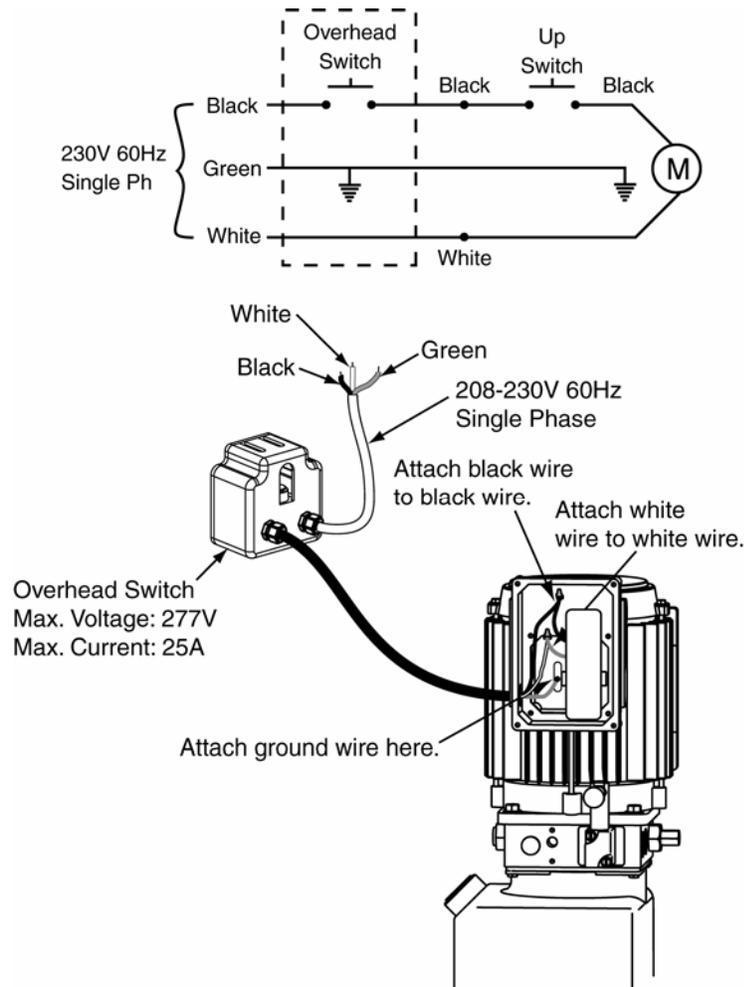

Figure 15
- * Have a certified electrician establish 208-230V, single phase, 60 Hz, 20 amp, power supply to motor and overhead switch, figure 15.